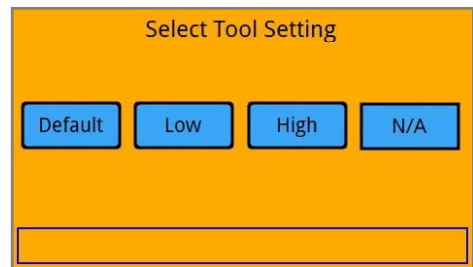

Figure 39
3. Next, use the touch screen display to select from the pump menu the option to suit the Phastite® connector to be assembled (Figure 39). Each button on the menu corresponds to the correct pump setting required to assemble each specific Phastite® connector Material, Tube O.D. and Wall Thickness. This menu is provided with each tool and is also available on page 31.